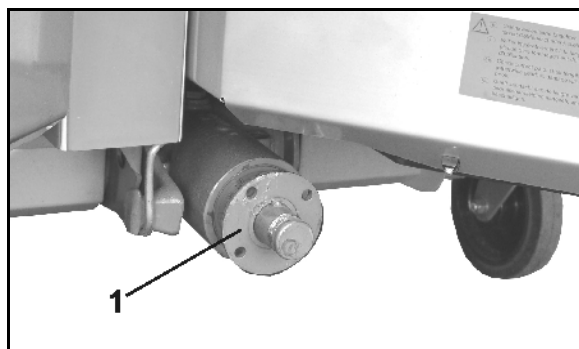

Fig. 33
1. Use an extractor to pull the flange bushing (Fig. 33/1) from the gearbox input shaft.
4. Remove the locking screw (Fig. 33/6).
Make sure the feather key (Fig. 33/5) is fully covered!